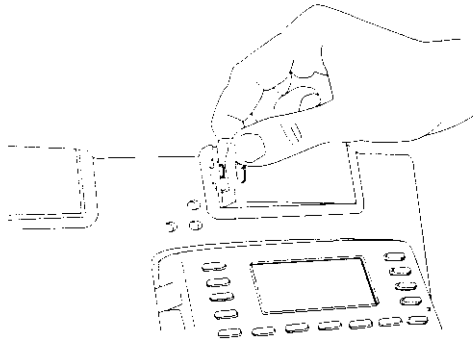

Figure 6-3. Inserting Spare Battery in 4-Slot Cradle
4. Lift the latch on the spare battery, and insert the battery in the cradle's charging slot. The latch snaps into place when the battery is inserted (see Figure 6-3)